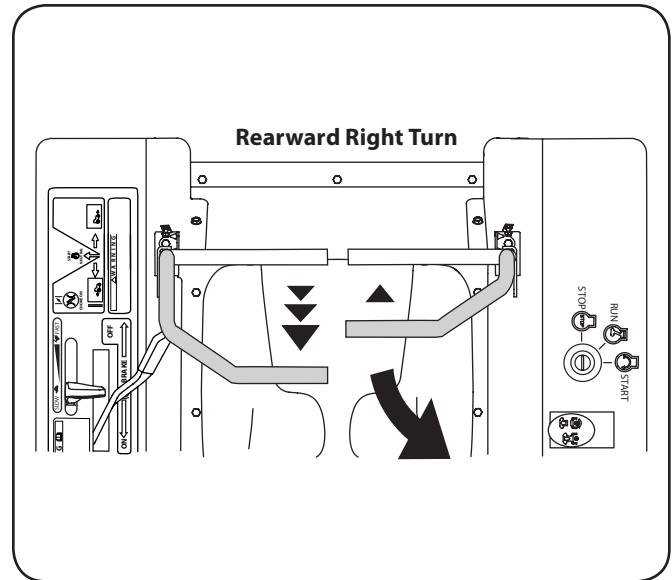

Figure 1-7
2. To turn to the right while traveling in reverse, move the right drive control lever forward of the left lever. See Figure 1-7.